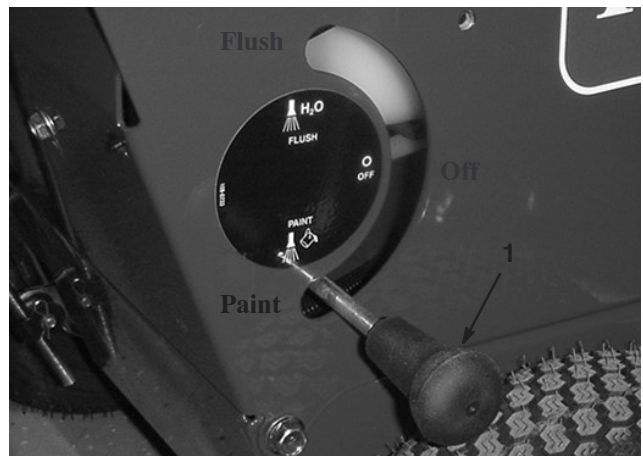

Figure 31
5. Make sure the Flush/Paint lever (Fig. 31) is in the PAINT position.